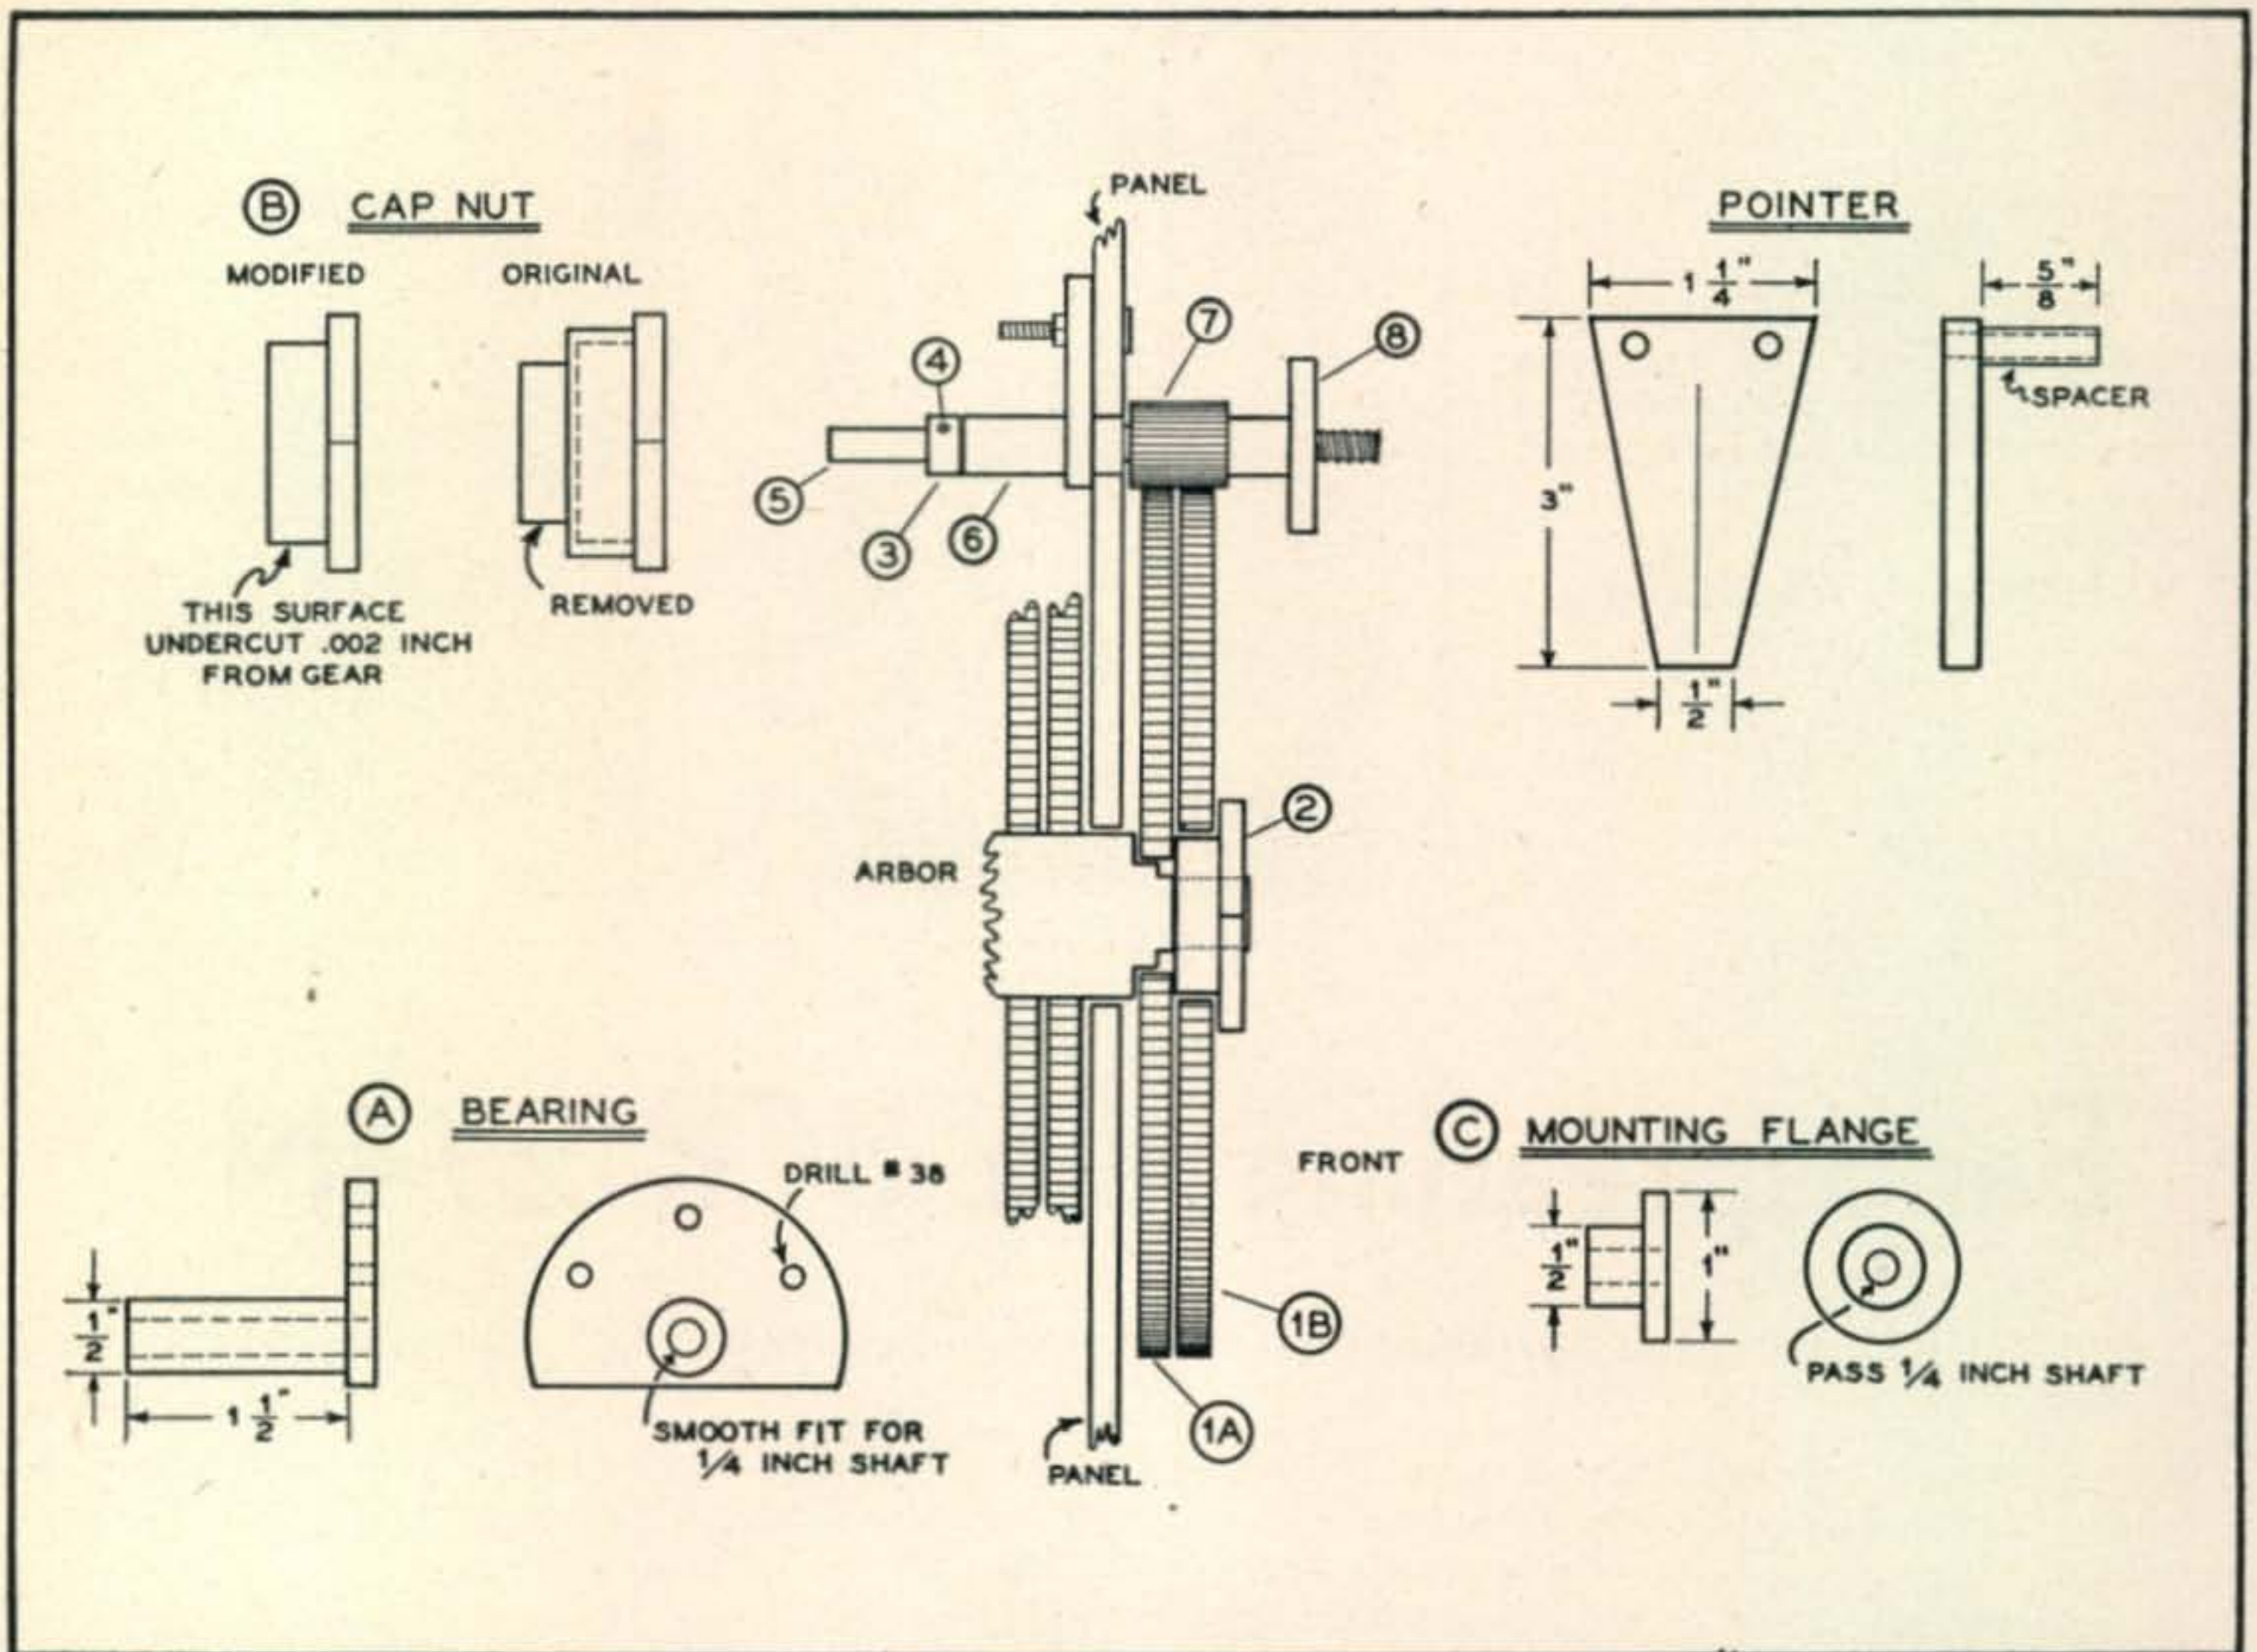

Fig. 3. Additional parts and mounting arrangement for installing a directly calibrated bandspread dial on the BC-459A.
5) Drill out the $\frac{3}{8}$ " hole in step 4. Take the bearing shown as Part A, Fig. 3, and position it at the back of the front panel in line with the $\frac{3}{8}$ " hole and with the cutoff flange section at the bottom. Scribe the three holes necessary to mount it to the panel. Drill out with a No. 38 drill. Mount the bearing with binding head 3-48 screws.
7) Take the original cap nut used for securing the old frequency dial to the arbor and set it up in a lathe and undercut as shown in *Part B, Fig. 3*. Any local machine shop will do this for very little cost.